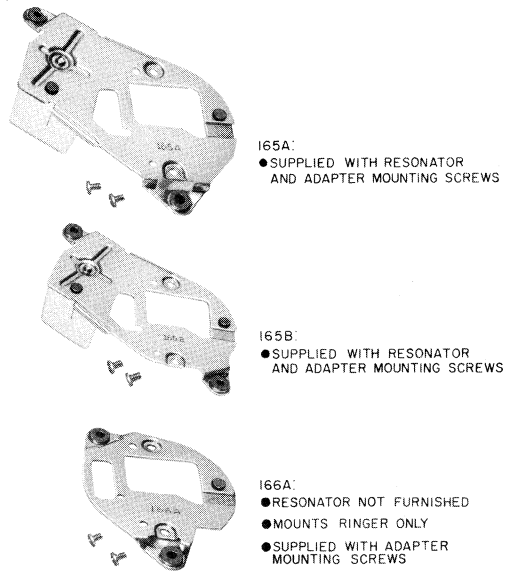
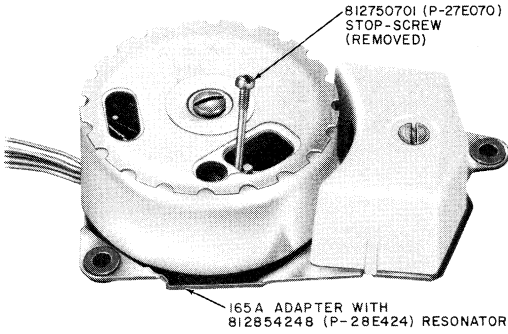

Fig. 2—P-Type Ringer Adapter Plates
Fig. 3—P-Type Ringer Mounted on 165A Adapter
2.01 The P-type ringer is a single-coil, high impedance ringer mounted directly in a telephone set or by means of a 165- or 166-type adapter (Fig. 2). The 165-type adapter is equipped with a resonator (Fig. 3).
2.03 The volume control can be moved to the cutoff position by rotating the dust cover until the openings line up with the access holes in the top of the gong and removing the factory placed stop screw (Fig. 3).